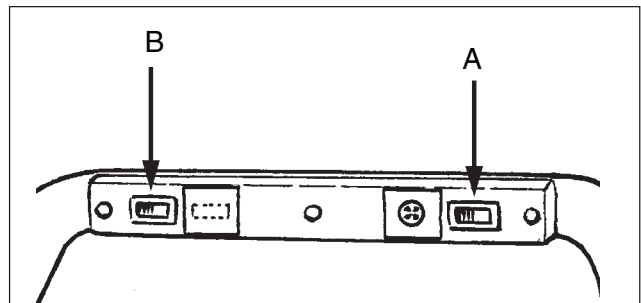

Figure 4
4. Turn the vacuum switch "ON" (rocker switch on operator's right, figure 4, A).
5. Turn the brush switch "ON" (rocker switch on operator's left, figure 4, B).